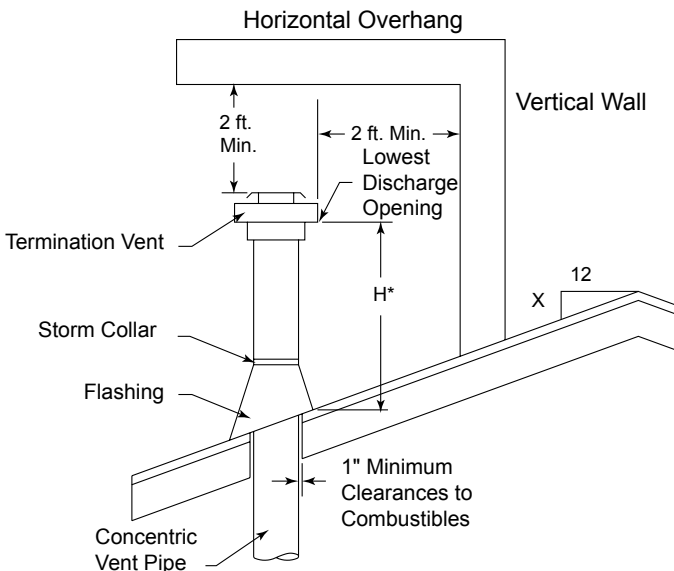

Figure 26 - Minimum Chimney Clearance
- For the minimum height of the vent above the highest point of penetration through the roof refer to page 20, Figure 26.